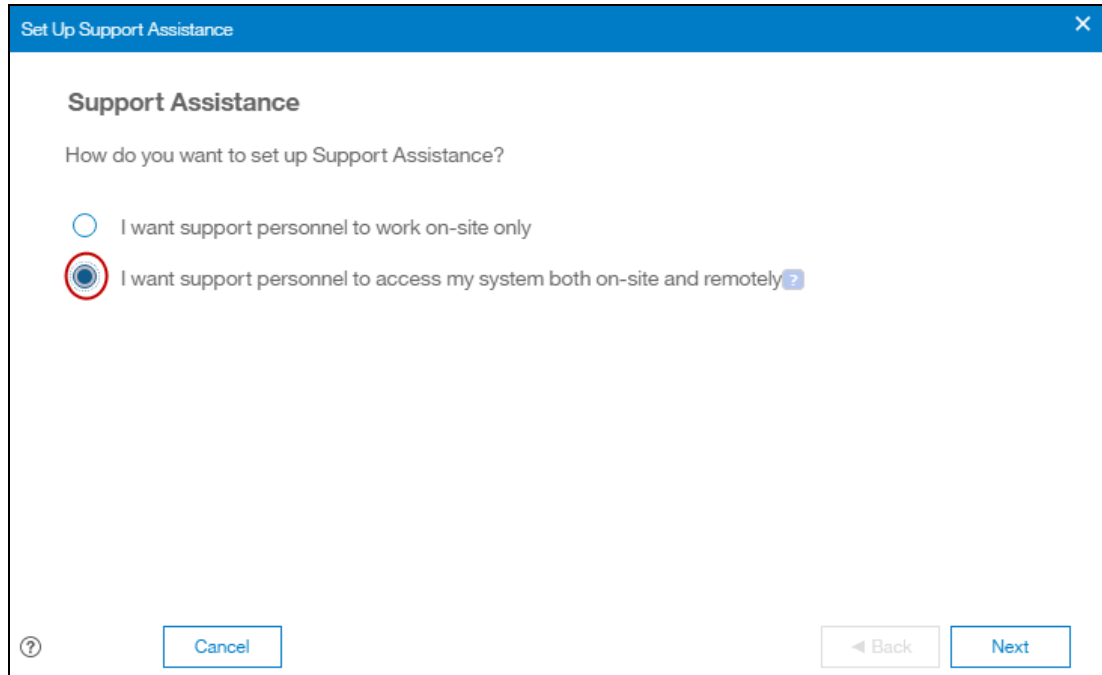

Figure 7-68 Remote Support wizard enable or disable
5. Figure 7-68 on page 286 shows the first wizard window. Choose not to enable remote assistance by selecting **I want support personnel to work on-site only** or enable remote assistance by choosing **I want support personnel to access my system both on-site and remotely**. Click **Next**.